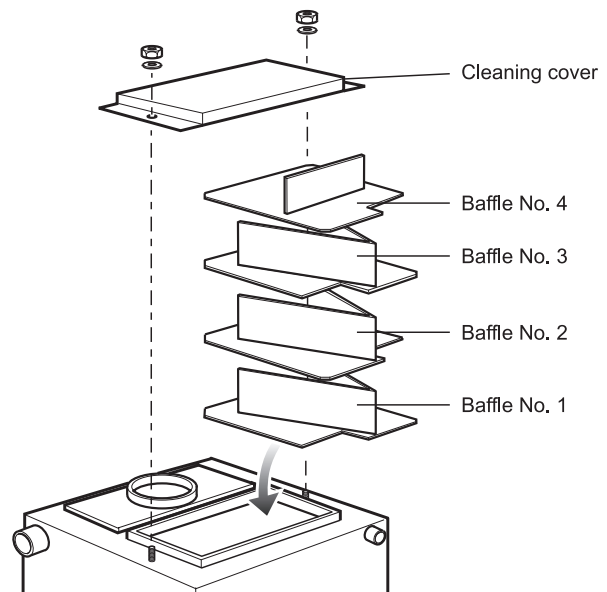

Fig. 26 - Combi 70 V3 baffle positions
- 6 Replace the baffles, ensuring they are correctly fitted. See Fig. 26, 27, 28, 29 or 30.
See Fig. 26, 27, 28, 29 or 30
- 2 Remove the baffles as shown in Fig. 26, 27, 28, 29 or 30.